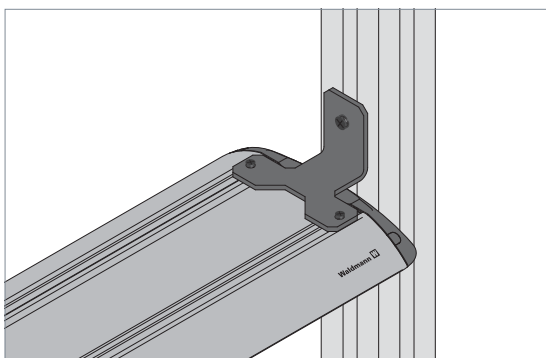

Fig. 13: Mounting the luminaire of mounting type "Lateral".
- ▶ Mount the luminaire on the mounting surface using a suitable screw, see Fig. 13.